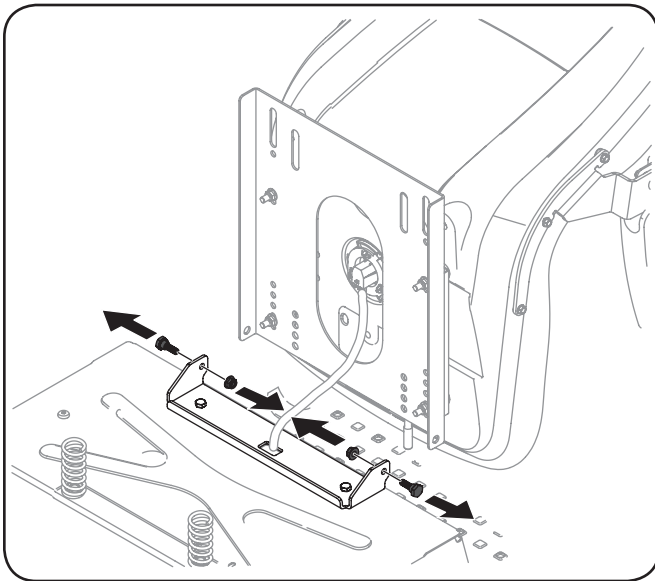

Figure 3-3
2. Remove the two shoulder screws and flange lock nuts in the seat bracket as shown in Figure 3-3.